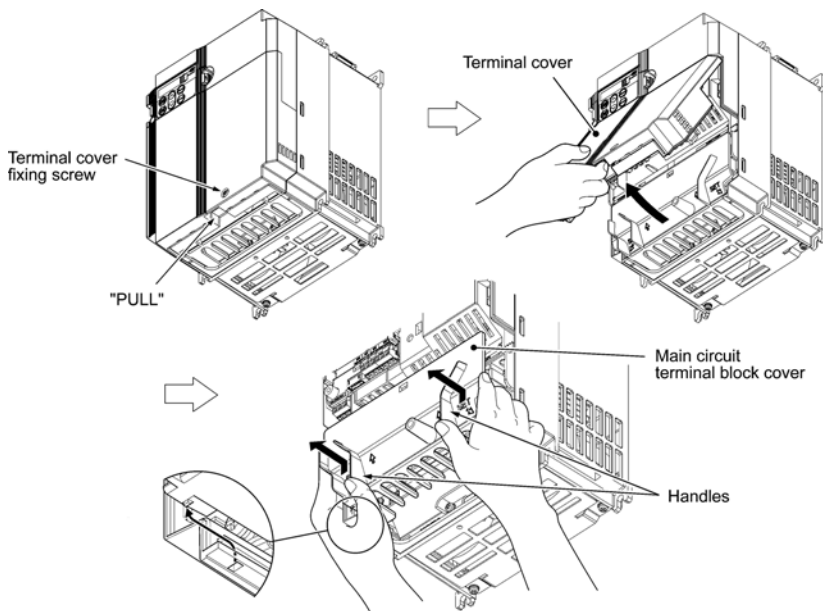

Figure 2.5 Removing the Covers (For Inverters with a Capacity of 5.5 and 7.5 kW)
(2) For inverters with a capacity of 5.5 and 7.5 kW
- ① To remove the terminal cover, first loosen the terminal cover fixing screw on it, and put your finger in the dimple of the terminal cover (labeled "PULL"), and then pull it up toward you.
- ② To remove the main circuit terminal block cover, put your thumbs on the handles of the main circuit terminal block cover, and push it up while supporting it with your fingers. (Refer to Figure 2.5.)